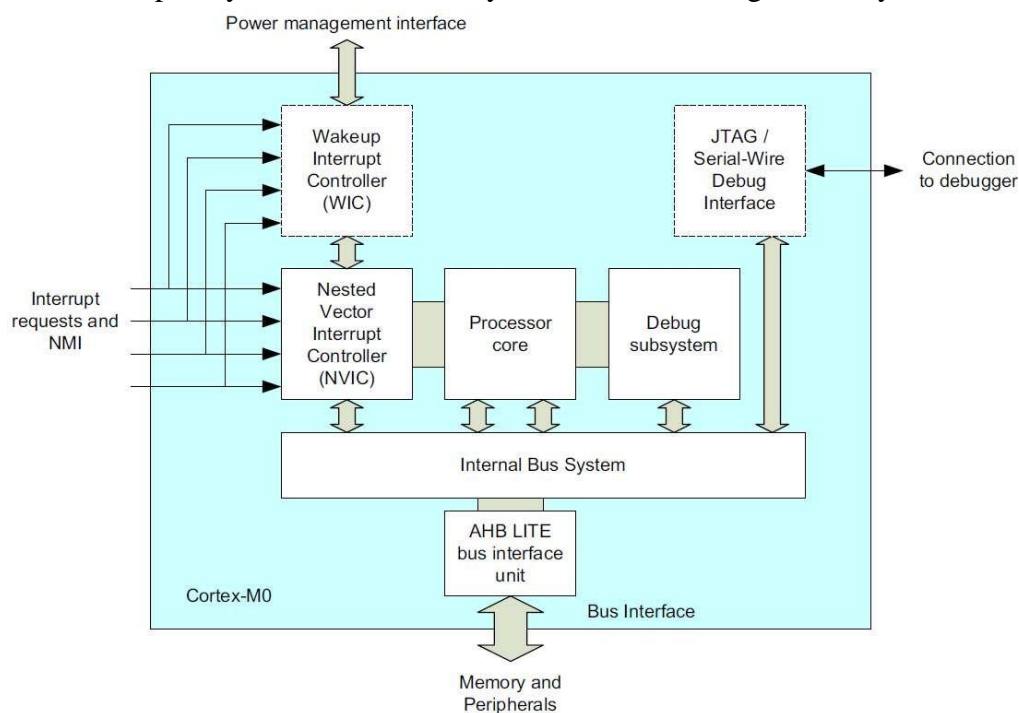

Figure 14: Simplified block diagram of the Cortex-M0 processor
i. A simplified block diagram of the Cortex-M0 is shown in Figure 14. The processor core contains the register banks, ALU, data path, and control logic. It is a three stage pipeline design with fetch stage, decode stage, and execution stage. The register bank has sixteen 32-bit registers. A few registers have special usages.